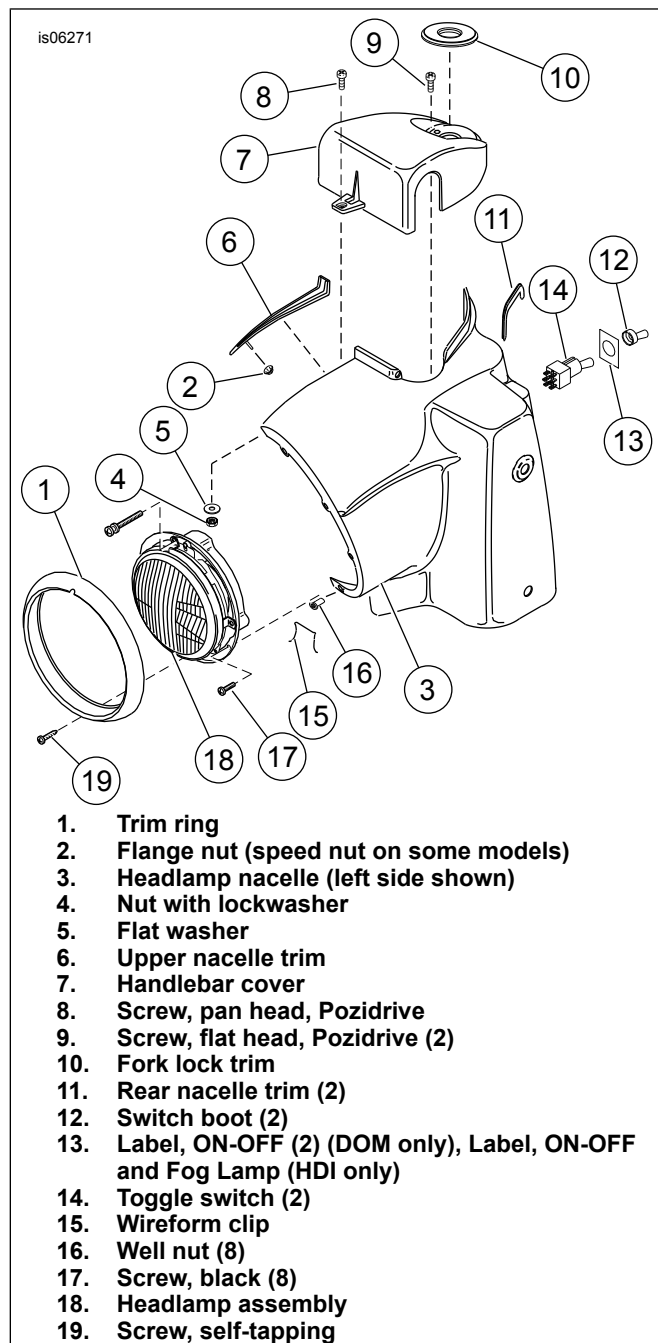

Figure 2. Remove and Install Nacelle and Handlebar Cover
1. See Figure 2. Remove self-tapping screw (19) at the bottom of the trim ring (1). Remove the trim ring.
2. Remove the eight black screws (17) to free the headlamp assembly (18) from the nacelle (3). Remove the eight well nuts (16) from the nacelle. Save hardware for installation.
1. **For HDI Models:** See Figure 2. Install new ON-OFF label (13) around the switch mounting hole on the left nacelle half. Install the fog lamp label (13) around the switch mounting hole on the right nacelle half. **For DOM Models:** See Figure 2. Install new ON-OFF labels (13) around the switch mounting holes on the two nacelle halves.